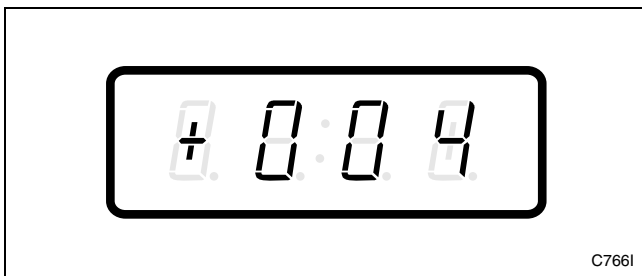

Figure 19
3. Press the DELICATES (+) or the COLD (-) keypad to scroll through the programmable options until “+004” appears in the VFD. Refer to *Figure 19*.